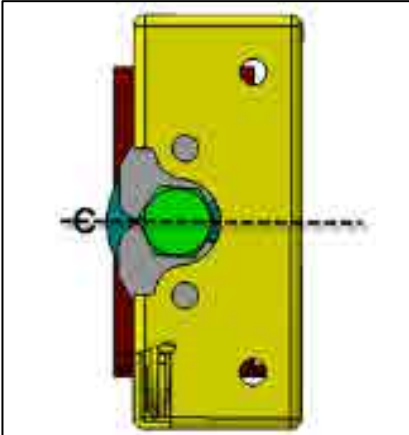
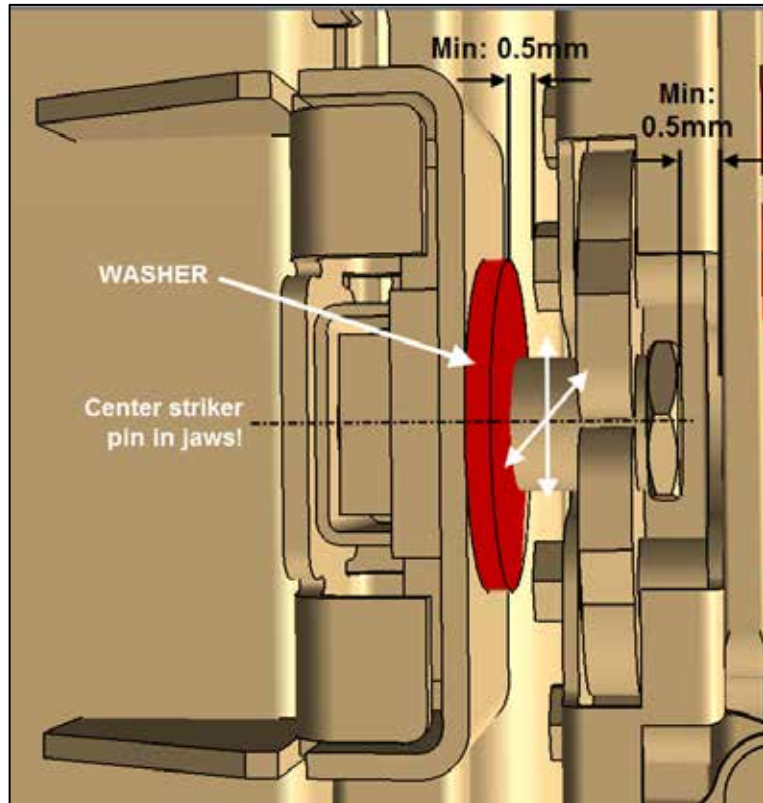

Figure 30
Figure 31
(Figure 30, Figure 31)
37. Control gaps as shown on Figure 31. Min **1/64"** (0.5mm)